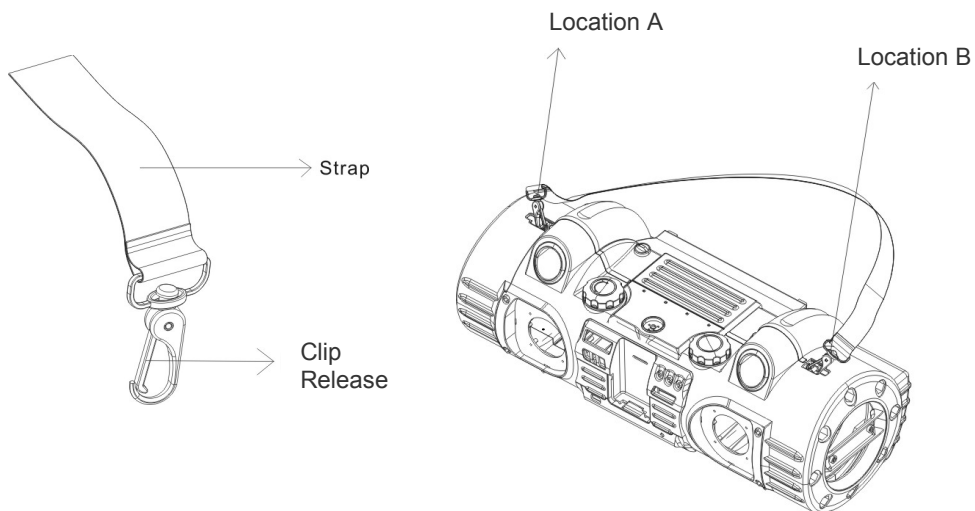

Figure 1
2. Insert the clip into the opening, so the Clip Release is facing the metal post as shown in Figure 1.